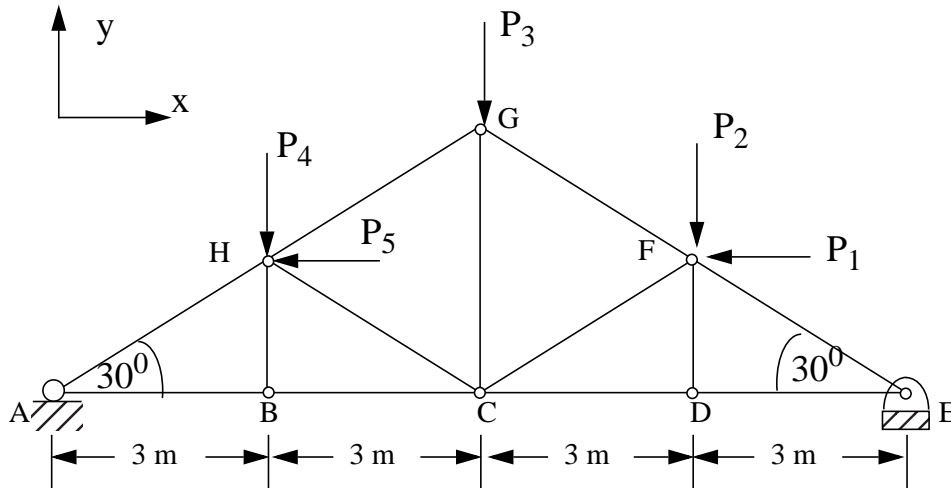

Fig. P3.49
3.49 The pins in the truss shown in Fig. P3.49 are displaced by u and v in the x and y direction respectively, as given. All rods in the truss have an area of cross-section $A= 100 \text{ mm}^2$ and a Modulus of Elasticity $E= 200 \text{ GPa}$.
Determine the external force P_4 and P_5 in the truss shown in Fig. P3.49